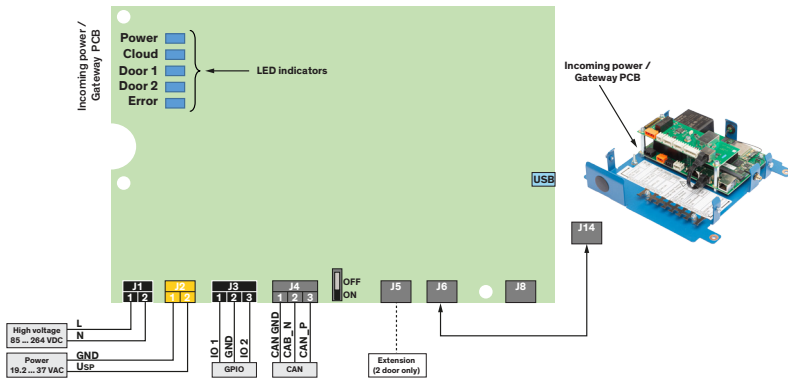

Figure 29: LED Indicators Gateway Interface PCB
- Group two is on the power / Gateway PCB shown in Figure 29.
The Gateway PCB has LED indicators to provide system status. These LEDs are located as shown in Figure 29.